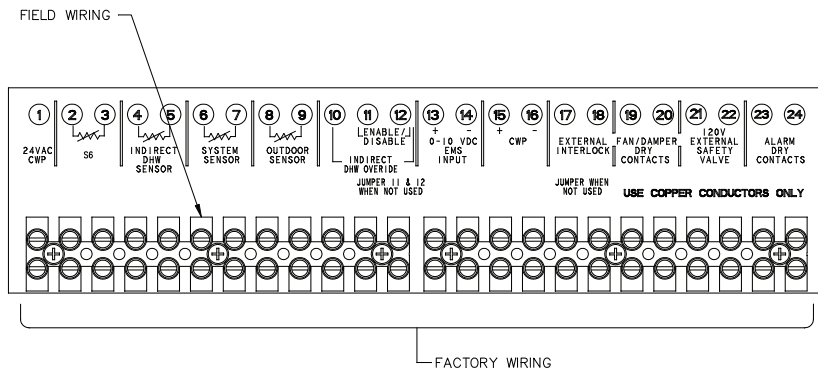

Fig. 33: Low Voltage Field Wiring
Connect the Enable/Disable wiring (terminals 11 and 12) to the field wiring terminals (shown in Fig. 33). Alternately, any dry contact closure (including a
2. If using an Outdoor Sensor (option B-32), connect the sensor wires to the terminals marked OUTDOOR SENSOR (see Fig. 33). Caution should be used to ensure neither of these terminals becomes connected to ground.
2. To enable this remote control function, set dip switch 5 to the UP position on the PIM. DIP switch 5 Toggles between an EMS (UP) signal or a demand signal from the VERSA (DOWN). DIP switch 2 on the PIM toggles between a Direct Drive (UP) input and a Target Temperature (DOWN) setpoint.
4. Connect an Energy Management system or other auxiliary control signal to the terminals marked 0-10V (+/-) on the field wiring terminals (see Fig. 33). Caution should be used to ensure that the +0-10V connection does not create a short to ground.
3. Connect the system supply sensor to terminals 6 and 7 on the field wiring strip located on the Master PIM (See Fig. 33).
4. Connect the Outdoor sensor (if used) to terminals 8 and 9 on the field wiring strip located on the Master boiler (See Fig. 33).
5. Connect the Enable/Disable wiring to terminals 11 and 12 on the field wiring strip located on the Master boiler (See Fig. 33). This connection must be provided through dry contacts closure.
An alarm annunciator or light may be connected to the alarm contacts on the field wiring terminal strip. The Alarm Contacts are 3A rated dry contacts on a normally-open relay that close during fault or lockout conditions, and the maximum voltage across the contacts is 30 VAC or 30 VDC. See the Field Wiring as shown in Fig. 33.